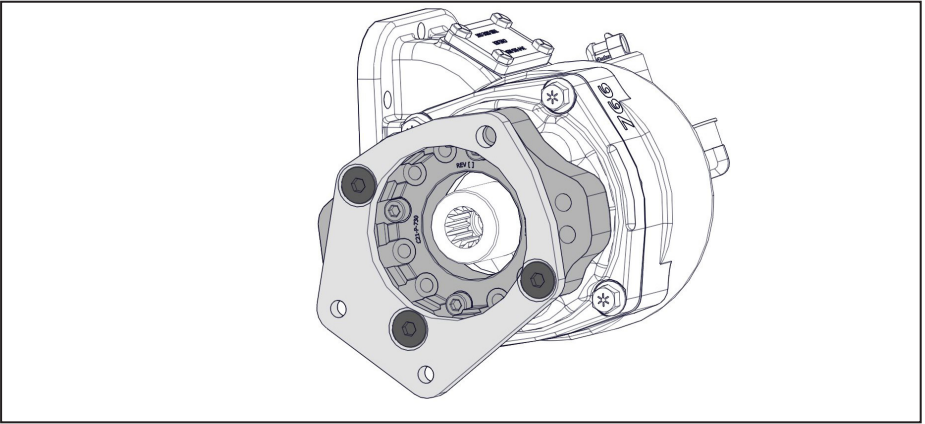

Figure 14 — PTO flange adaptor
- ☐ Using the (x3) flat head fasteners, install the PTO flange adaptor; torque the fasteners to specification (Figure 14).